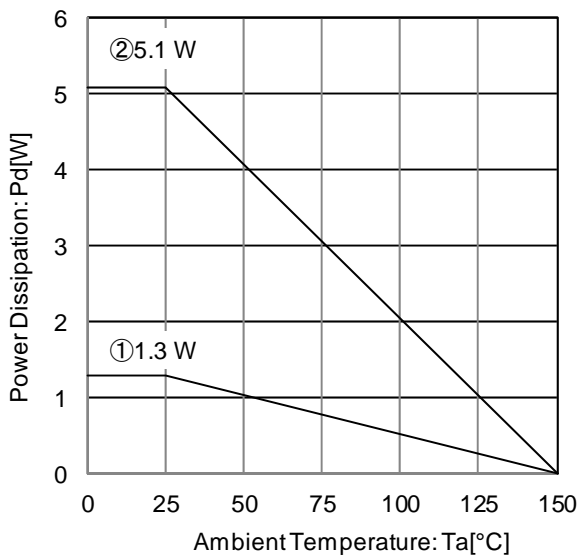

Figure 26. Package Data (TO252-3)
At Ta=125°C with Figure 26 ② condition, the calculation shows that ca 100mA of output current is possible at 10.2V potential difference across input and output.
At Ta=125°C with Figure 26 ② condition, the calculation shows that ca 120mA of output current is possible at 8.5V potential difference across input and output.